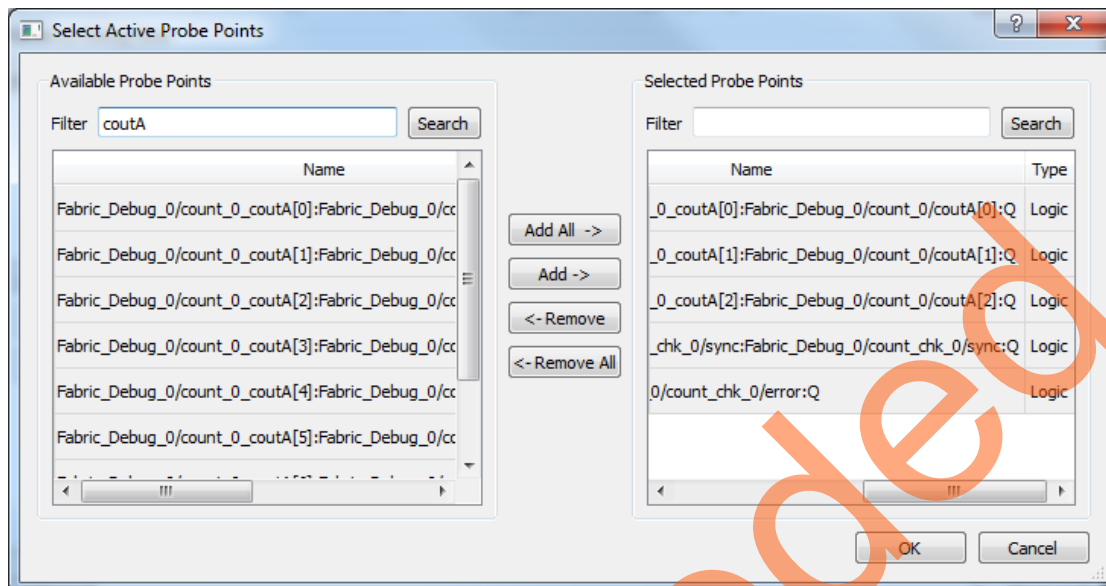

Figure 2-13 • Selecting Desired Points to Read
To find these points in the list of available probe points use the Filter control, as shown in Figure 2-13 on page 17.
4. Select the desired points and click on **Add** to move to the **Selected Probe Points** window and click **OK**, as shown in Figure 2-13.